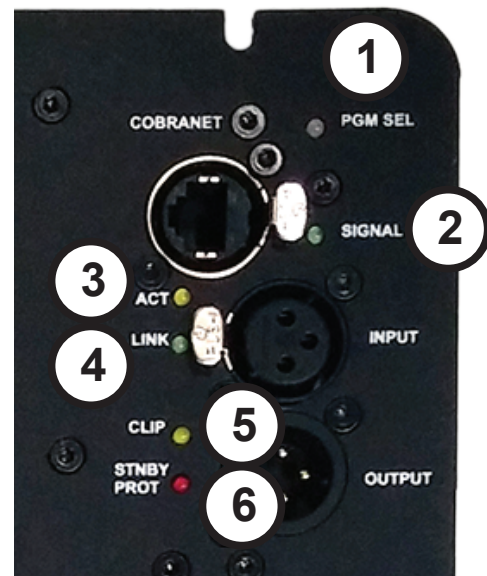

Figure 32: Amplifier Indicator Lights
This section describes the indicator lights on the front panel of Speaker Power's CobraMote model amplifiers. There are (6) LEDs on the front panel, as shown in **Figure 32** and described below: